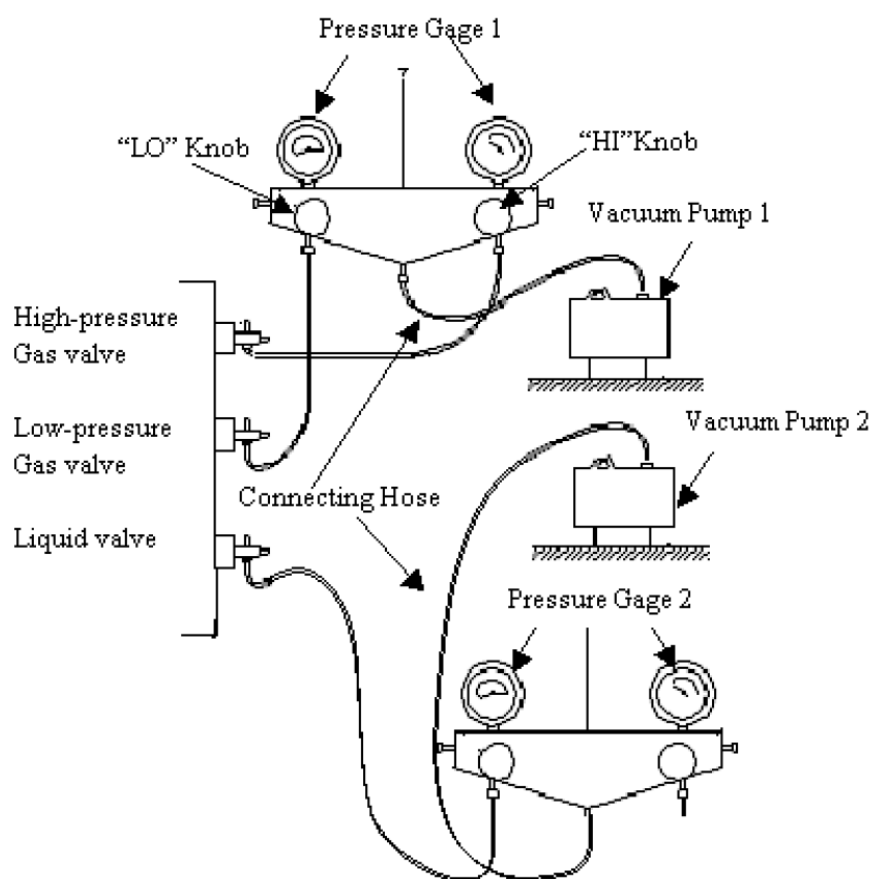

Fig.18
(2) Because air extraction from outdoor unit's liquid valve, high pressure gas valve and low pressure gas valve must be performed simultaneously, 2 sets of vacuum pump must be used at the same time to guarantee the required vacuum degree. See Fig.18.